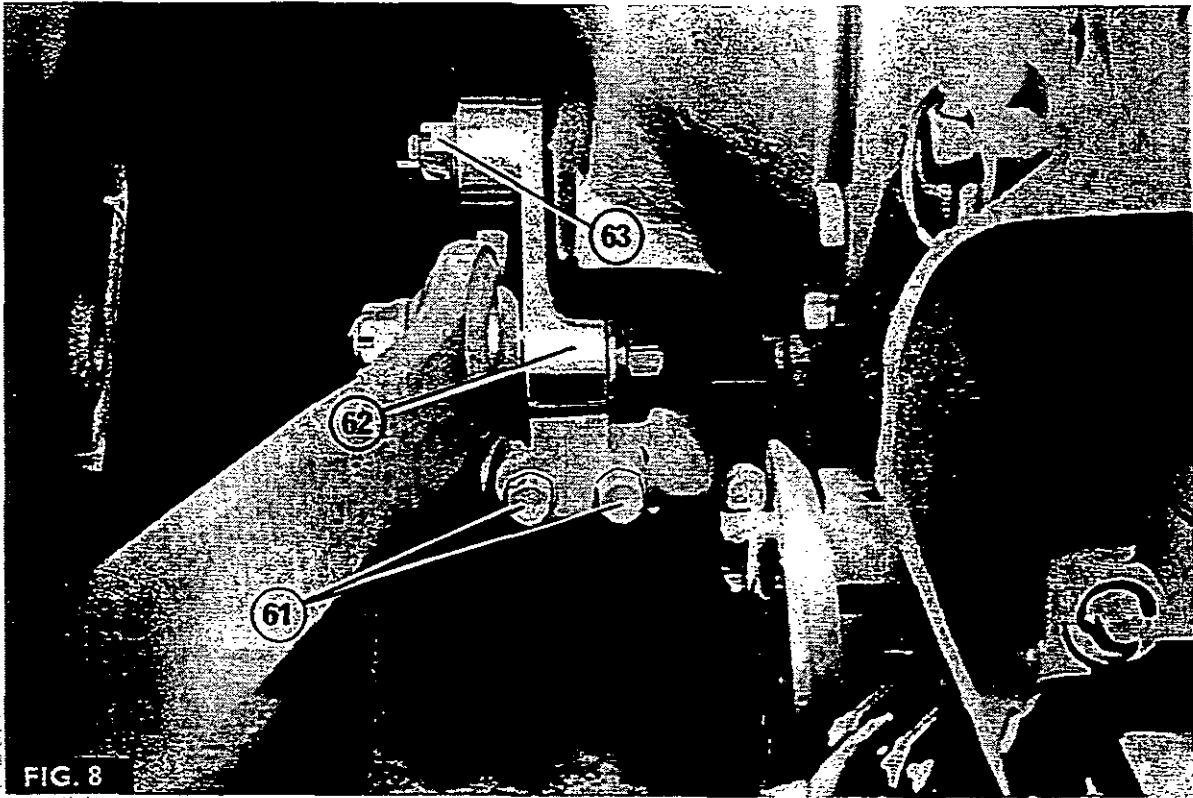

FIG. 8
6. Refit the brake drum and secure with the two screws (3).
9. Fig. 8. Refit the lower link adapter bracket (62) to the trumpet housing pin, and secure with the washer, nut (63), and a new split pin, then refit the two bolts (61), securing the bracket to the swinging drawbar.